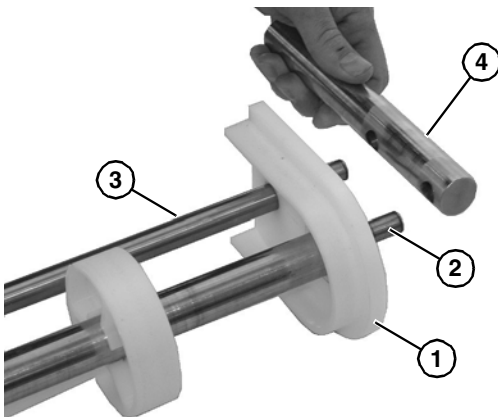

Figure 67
3. Install the pinch guard (Figure 67, item 1) to each side onto idler shaft (Figure 67, item 2) and pinch guard shaft (Figure 67, item 3).
4. Install the bearing end rod (Figure 67, item 4) onto idler shaft (Figure 67, item 2) and rod (Figure 67, item 3).